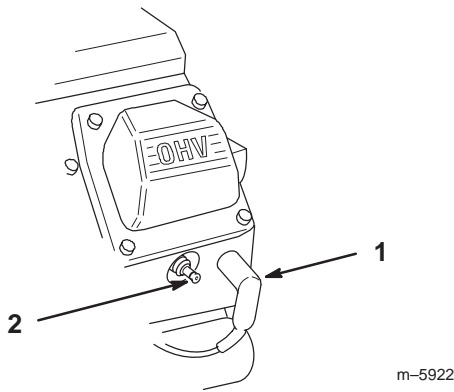

Figure 39
3. Pull the wires off of the spark plugs (Fig. 39).
3. Push the wires onto the spark plugs (Fig. 39).